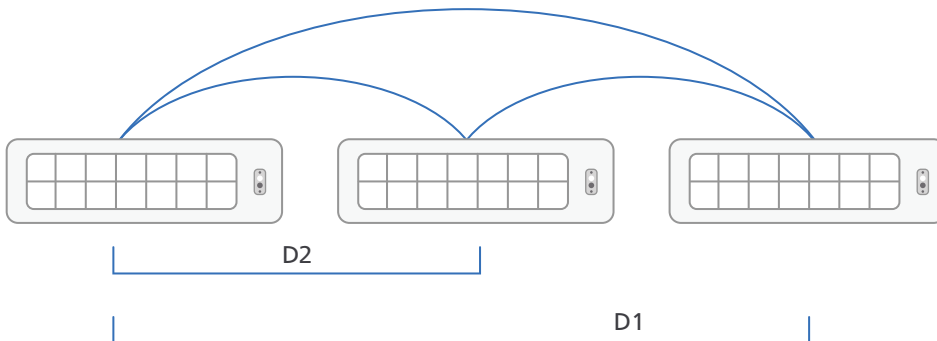

Figure 2. Application of wireless luminaires in a corridor
- When installing in a corridor, use half the distance (D2) between two wireless devices to ensure that there will be always a second device (D1) in reach in case one of the devices fails. See figure 2.